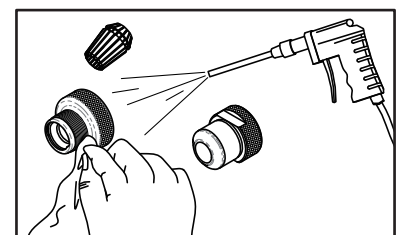
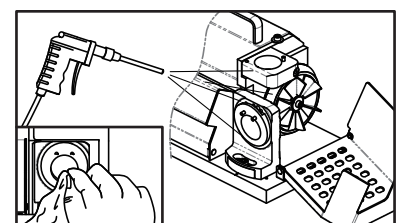

Fig. 13-4
Fig. 13-5
① Unplug the power cord and make sure the power is off.
② Disassemble the chuck set after use.
③ Use the air press gun to clean the scraps and dust out of all grinding shelves and all the accessories. (Fig. 13-4, Fig. 13-5)
(Fig. 13-4, Fig. 13-5)